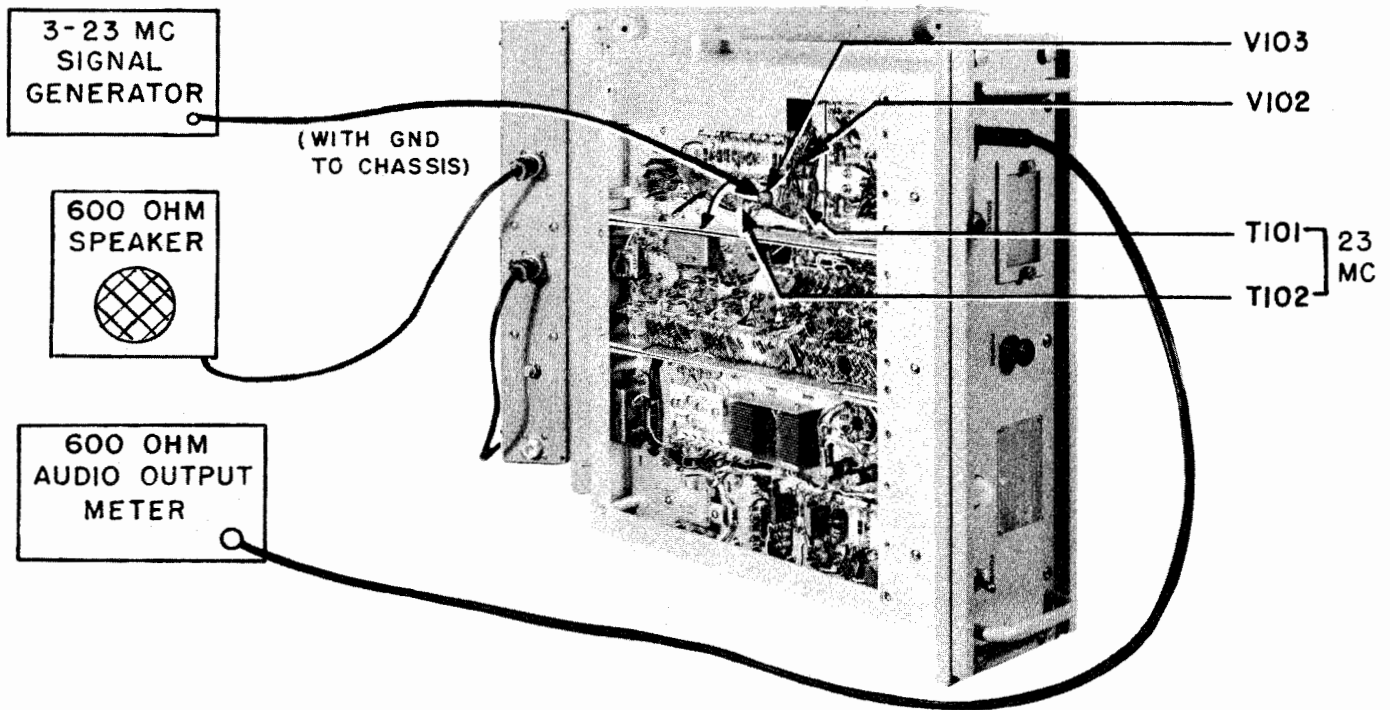

Figure 7-6. Alignment Set-up, 23Mc IF Amplifier
- (3) Align 23 Mc IF stage. (See figure 7-6.)
(1) Connect the receiver, signal generator, and audio output meter as indicated in figure 7-6 and proceed with alignment, as outlined in table 7-4.